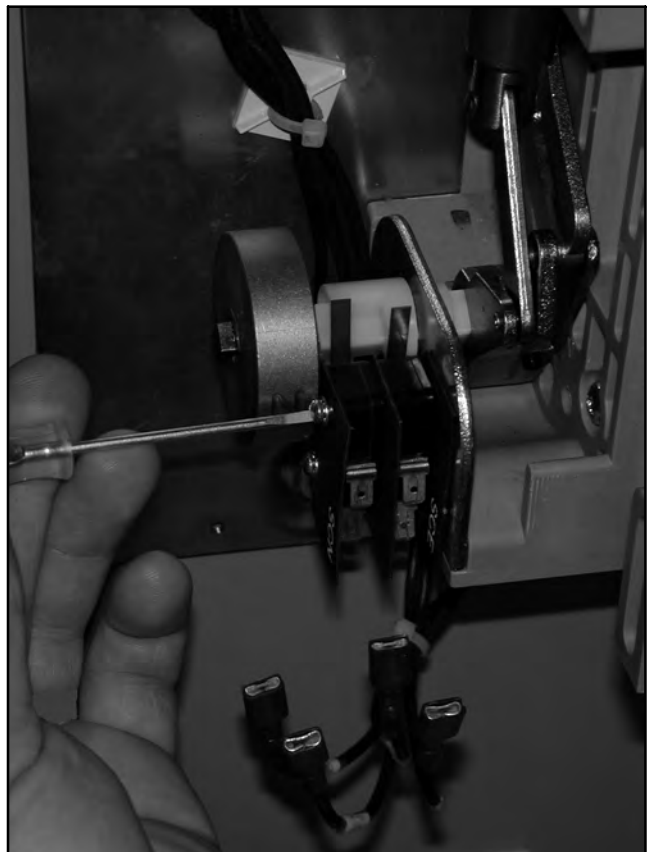

Figure 6-13 Microswitch Installation
11. Reinstall the microswitch assembly. See Figure 6-13.